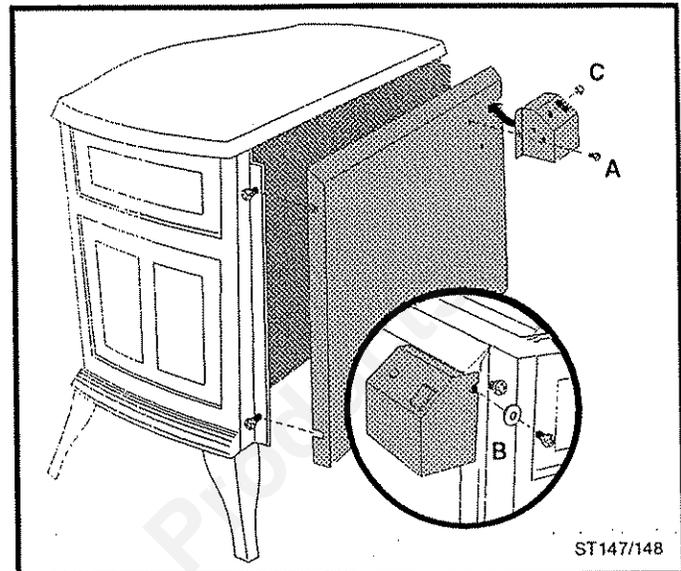
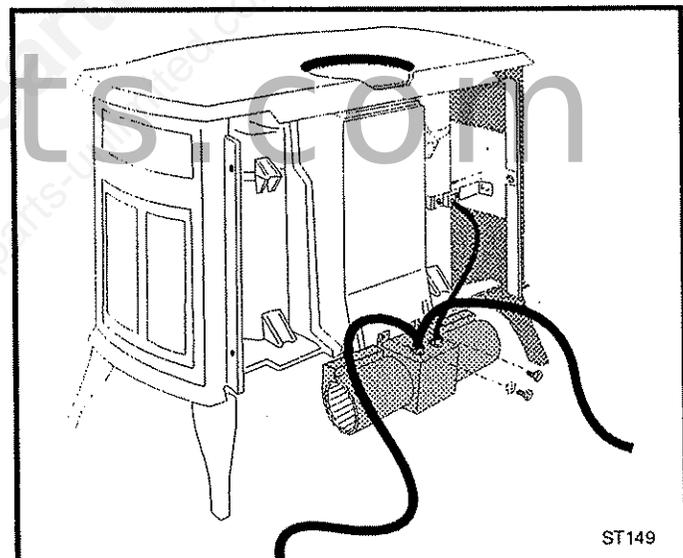

Fig. 19 Remove the rear shroud and switchbox.
Fig. 20 Attach the fan assembly to the bottom of the stove.
1. **Remove the rear shroud.** (Fig. 19)
2. **Remove the switch box.** (Fig. 19)
- Remove the hole plug (C) from the box.
3. **Attach the fan assembly.** (Fig. 20)
1. Remove the rear shroud. Fig. 19, page 13. Use work gloves to protect your hands. Loosen the two phillips screws on each side of the rear shroud. Disengage the shroud and set it against the stove.